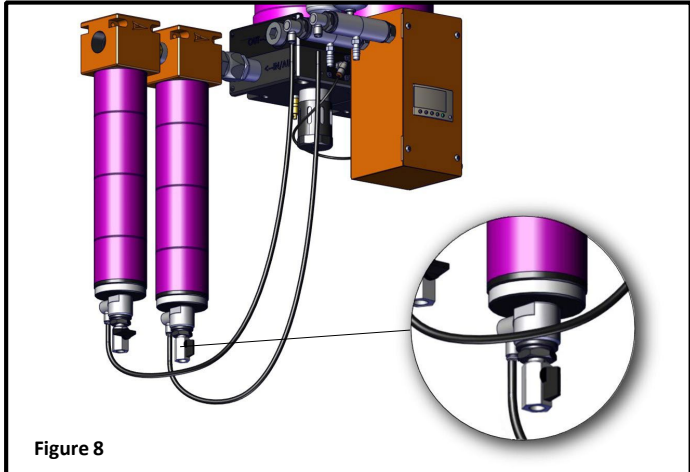

Figure 8
1. Once the system pressure has been released, open either ball valve located on the bottom of the filter housing to verify there is no remaining pressure inside the unit. *Figure 8*